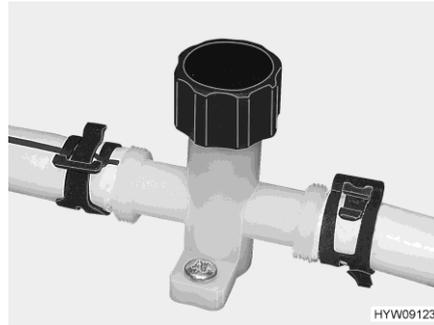
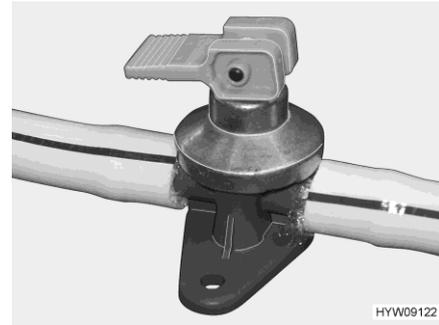

Fig. 161 Drain cock (water pipe)
Fig. 162 Drain cock (Alde boiler)
- Close the drain cocks. To do so, turn the cap (Fig. 161) in a clockwise direction and set the rocking lever (Fig. 162) in a horizontal position.
- Open the drain cocks. To do so, turn the cap (Fig. 161) in an anticlockwise direction and set the rocking lever (Fig. 162) in a vertical position.